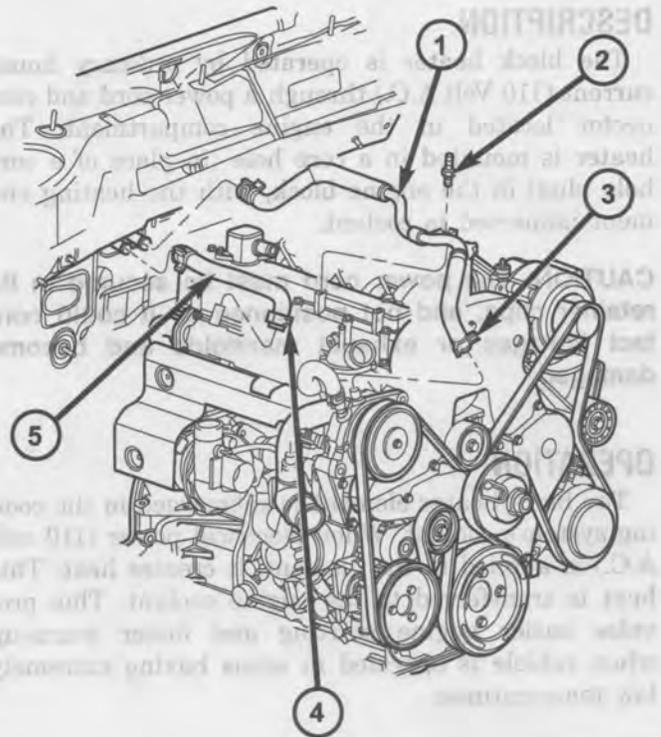

Fig. 4 HEATER CORE COOLANT HOSES
(1) Drain cooling system (Refer to 7 - COOLING/ENGINE/COOLANT - STANDARD PROCEDURE).
(2) Remove engine cover from engine (Refer to 9 - ENGINE COVER - REMOVAL).
(3) Disconnect heater core supply line at heater core and viscous heater (Fig. 4). Remove hose from vehicle.
(4) Disconnect heater core return line from heater core and EGR cooler (Fig. 4). Remove hose from vehicle.